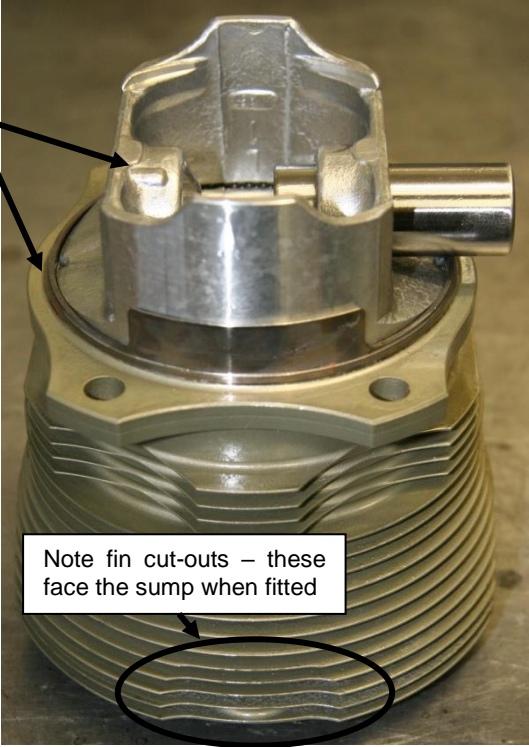

Figure 143 – Piston / Ring / Cylinder Assembly
- Start the gudgeon pin into the piston as shown in Figure 143 (left).